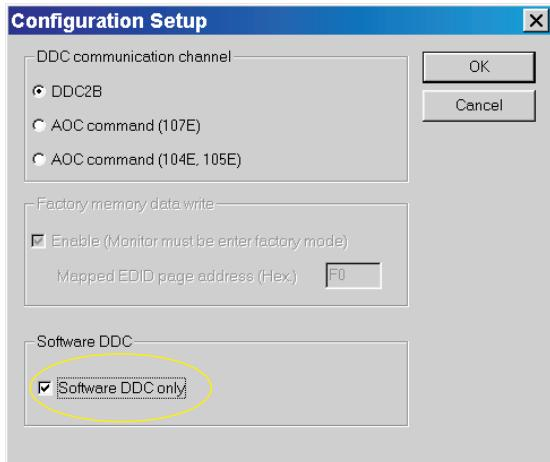
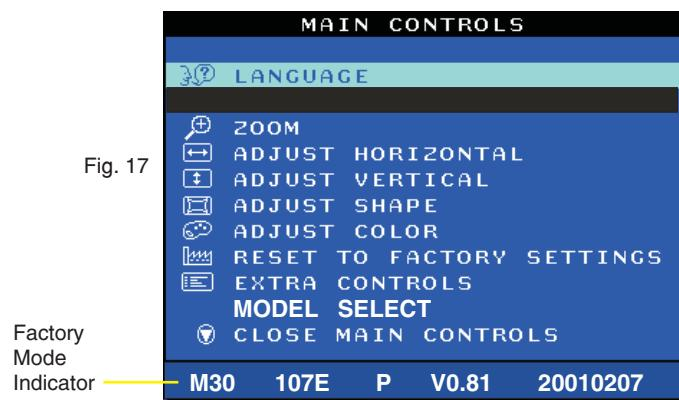

Fig. 16
Fig. 17
1. Click icon from the tool bar to bring up the Configuration Setup windows again. Then, select "Software DDC only" as shown in Fig. 16. Click "OK".
4. Access "Factory Mode" and enable "Software DDC only" as shown in Fig. 17 & Fig. 16.